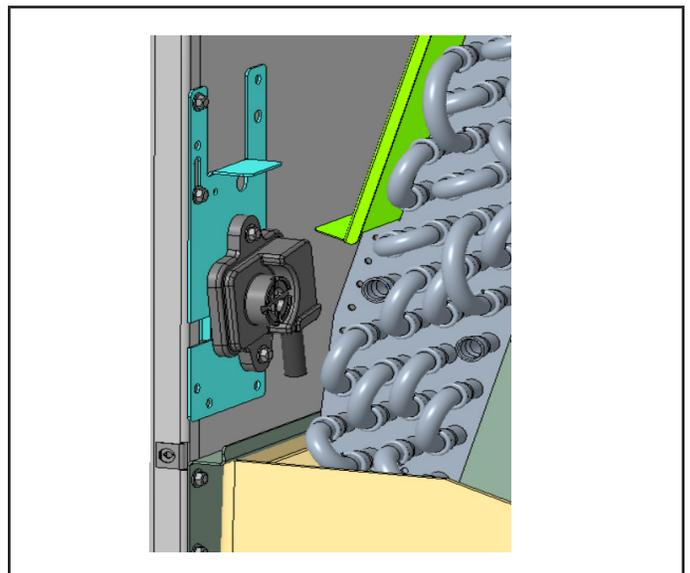

FIGURE 8
- 1 - Remove sensor bracket assembly from vertical position (shown in FIGURE 8). Do not remove sensor from bracket, and do not disconnect or reroute sensor wire from the control panel area.